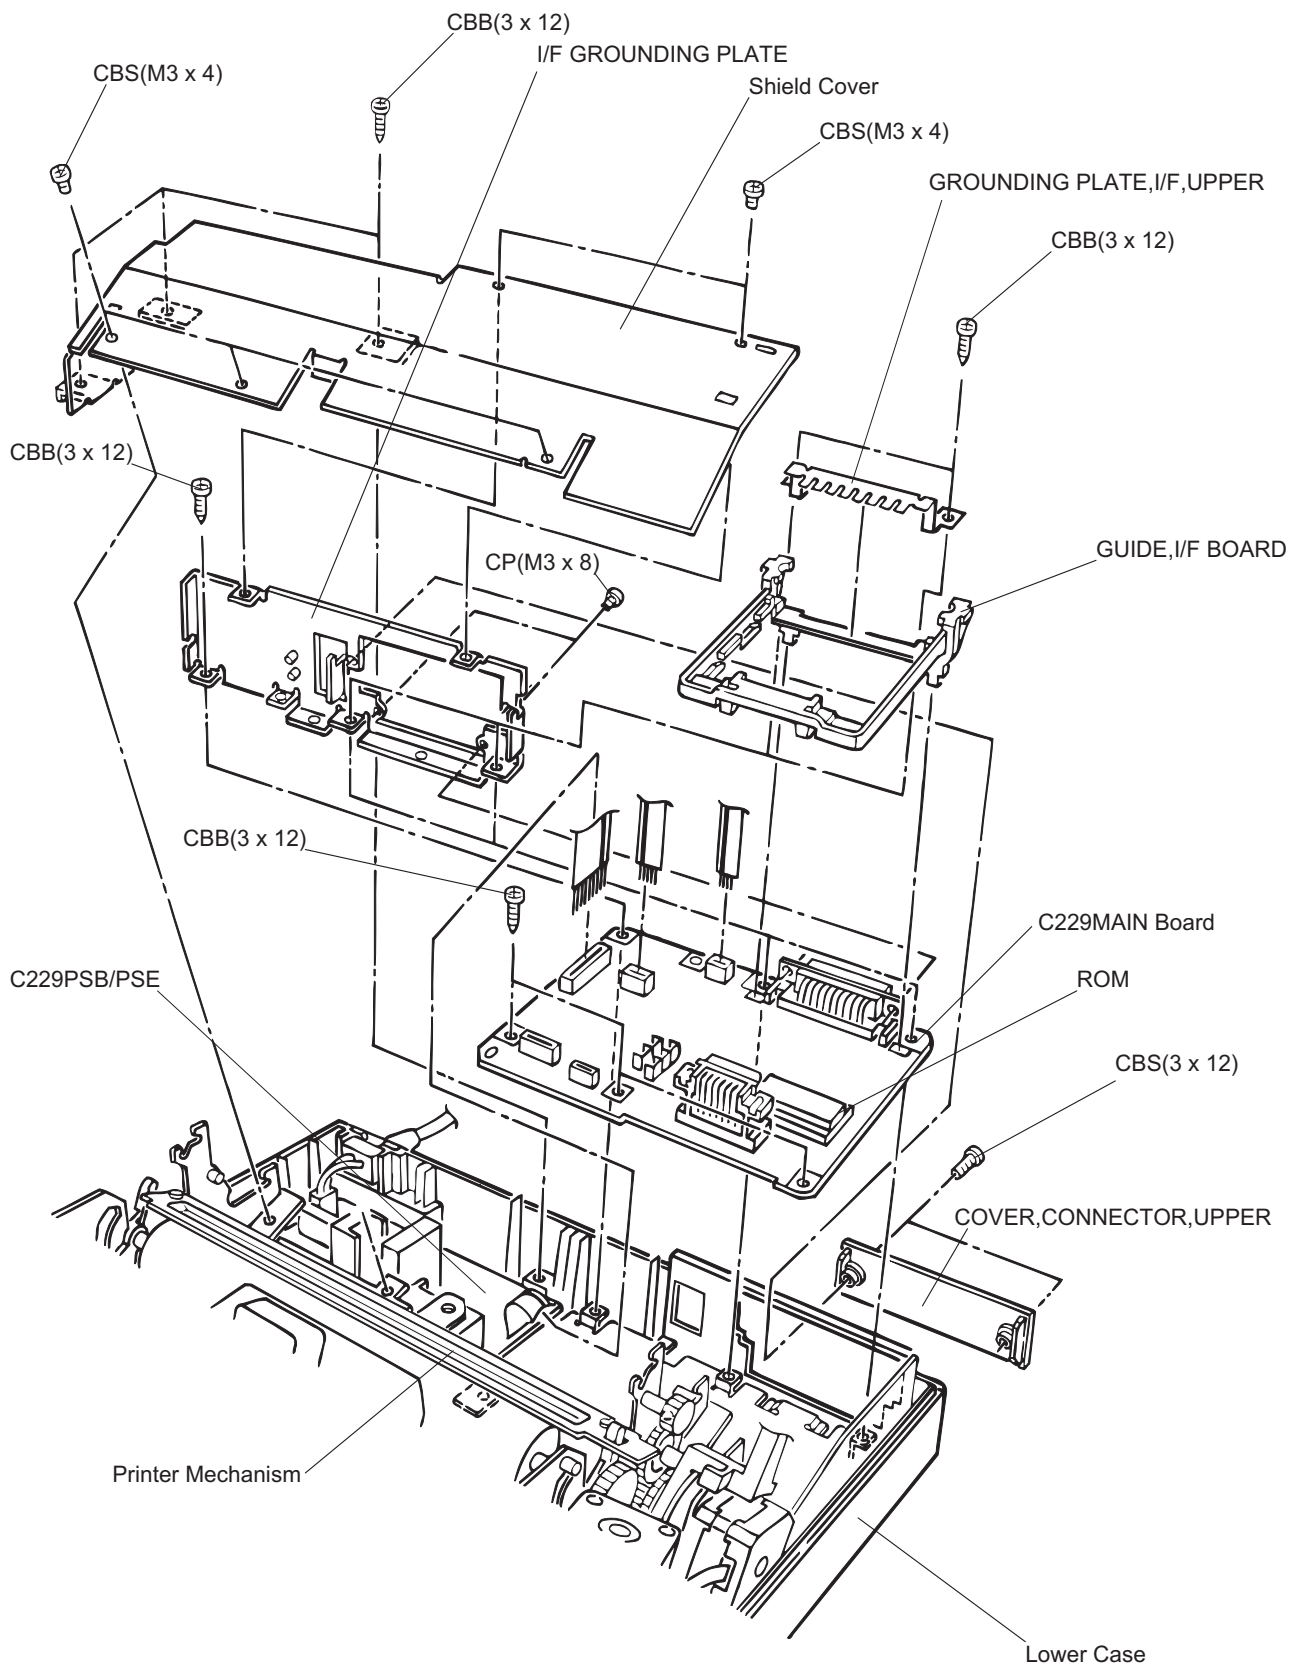

Figure 4-6. C229MAIN Board Removal
- 1• Remove 5 CBS (M3 × 4) screws and 3 CBB (3 × 12) screws securing the shield cover to the printer mechanism and lower housing and remove the shield cover. (See Figure 4-6.)